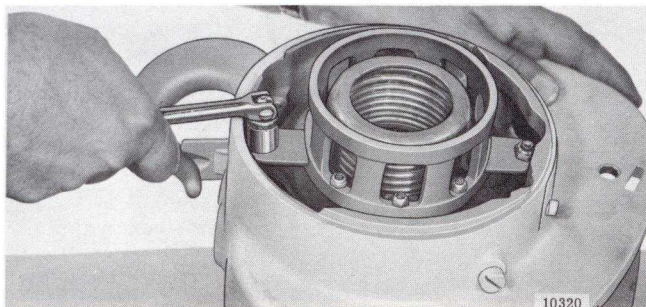
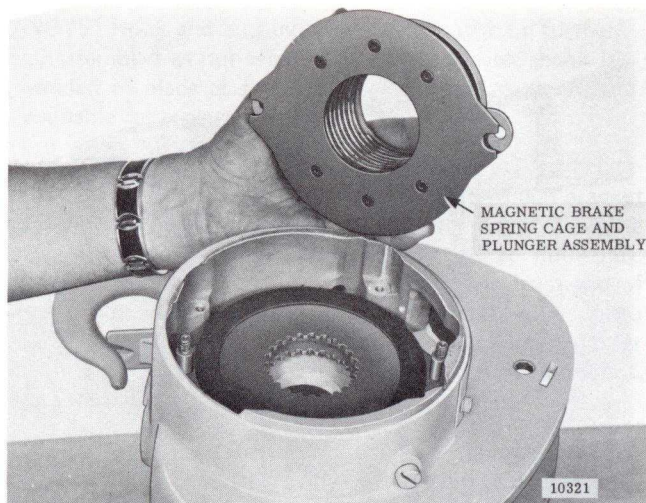

Figure 7-11. Removing Self-locking Nuts Securing Spring Plunger to Brake Plate Pins
Figure 7-12. Removing Magnetic Brake Spring Cage and Plunger Assembly
(1) Remove two self-locking nuts (fig. 7-11) securing brake spring cage to brake plate support pins and lift out assembled spring cage plunger, spring and compression plate (fig. 7-12). This assembly should not be further disassembled and is to be replaced only as an assembly.